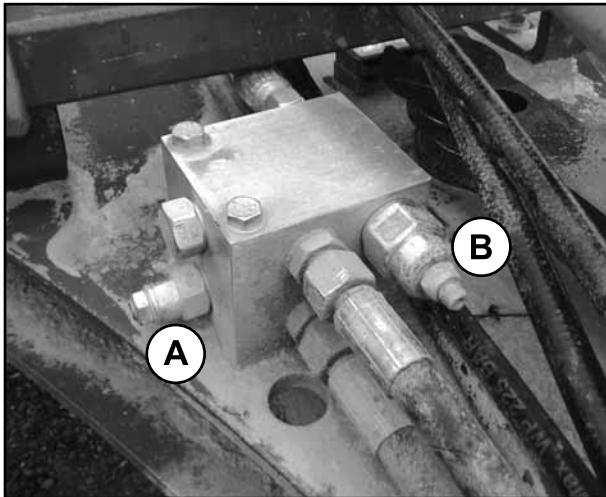

Fig. 5.02: Valve Block
The valve block (see Fig. 5.02) contains a counter balance valve (A) to keep the lift cylinders in phase in use and a pressure reducing valve (B) to ensure the wings stay level in work.